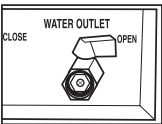

Fig. 7
- 2. Open the water outlet to drain water. (Fig. 7)